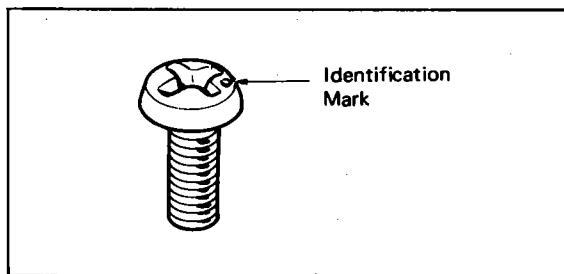

Fig. 2-1. ISO screw
**Note:** All screws in this set are manufactured to the specifications of the International Organization for Standardization (ISO). This means that the new and old screws are not interchangeable because ISO screws have a different number of threads per mm compared to the old ones. The ISO screws have an identification mark on their heads as shown in Fig. 2-1.